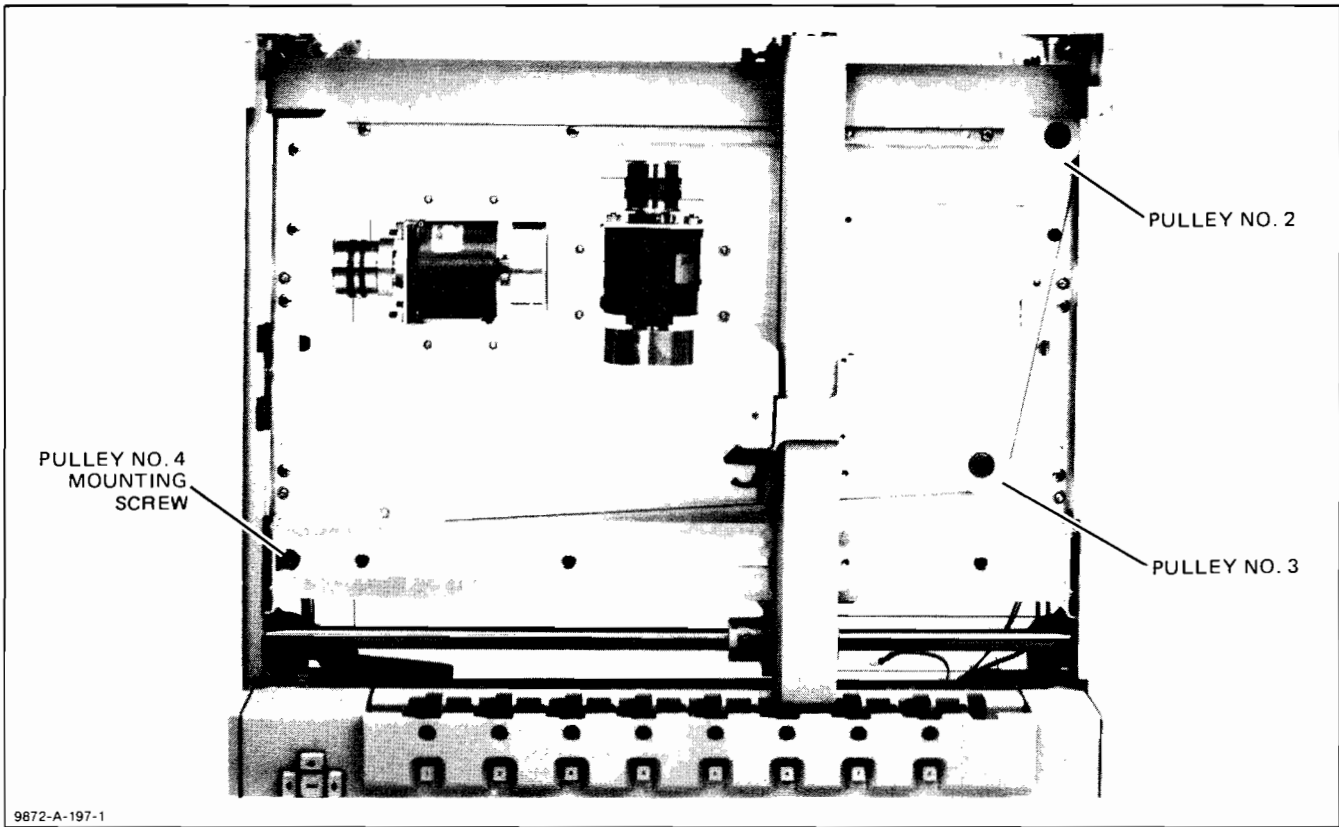

Figure 6-30. Top View of Plotter with Platen Removed
- a. Remove pulley #4, being careful not to lose the washer located under the pulley. See Figure 6-30.
- c. Thread the cleated end of the cable through the space normally occupied by pulley #4 and anchor to the lower plotter arm bracket. See Figures 6-30, 6-31, and 6-32.